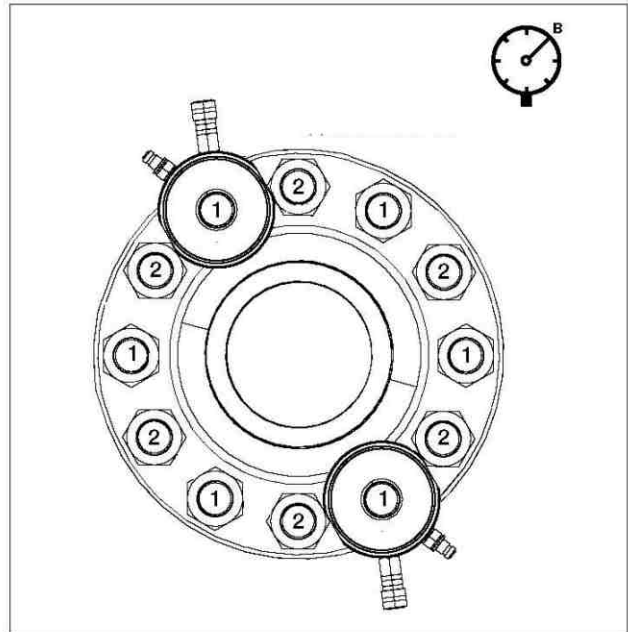

Figure 4.3-5 Rechecking First Pass Tension
- Assemble tensioners on any two "first pass" bolts (labeled "1") located diametrically opposite of each other. See Figure 4.3-5.
- 4.3.26 Verify that the oil pressure gauge indicates zero (0) psi/bar.